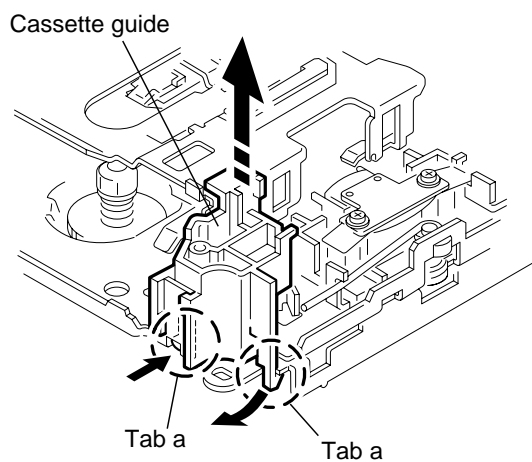

Fig.2
■ Removing the cassette guide (See Fig.2)